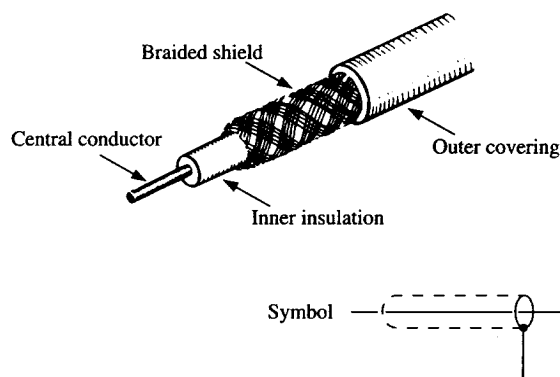

Figure AA-9. The composition and symbol of coaxial cable.
- ⑤ Ensure the Amplitude control [3] is midrange (with the indicator straight up), and the attenuation OFF. If necessary, push the amplitude control IN to turn off the attenuation.
- ⑥ Ensure the DC OFFSET control [7] is midrange, or OFF. A DC offset refers to a DC voltage added to the AC output, which is not wanted here.
- ⑦ Connect the 50 Ω OUTPUT of the generator [2] to CH1 of your oscilloscope with a “BNC” coaxial cable. This cable’s construction is illustrated in Figure AA-9. The signal is carried on the cable’s central conductor. The braided shield is ground which connects to the outer casing of the cable end. BNC cable has twist lock connectors at both ends so take care when connecting the cable to the signal generator and oscilloscope.